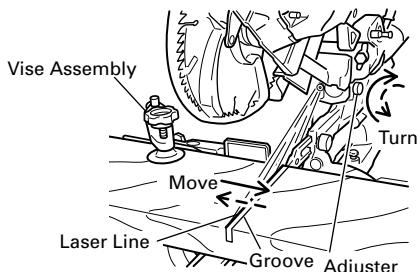
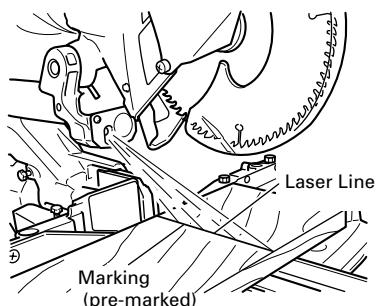

Fig. 20
Fig. 21
- (1) Light up the laser marker and make a groove of about 3/16" (5mm) deep on the workpiece that is about 25/32" (20mm) in height and 5-29/32"(150mm) in width. Hold the grooved workpiece by vise as it is and do not move it. For grooving work, refer to "11. Groove cutting procedures" on page 24.
- (2) Then, turn the adjuster and shift the laser line. (If you turn the adjuster clockwise, the laser line will shift to the right and if you turn it counterclockwise, the laser line will shift to the left.) When you work with the ink line aligned with the left side of the saw blade, align the laser line with the left end of the groove. (Fig. 20) When you align it with the right side of the saw blade, align the laser line with the right side of the groove.
- (3) After adjusting the position of the laser line, draw a right-angle ink line on the workpiece and align the ink line with the laser line. When aligning the ink line, slide the workpiece little by little and secure it by vise at a position where the laser line overlaps with the ink line. Work on the grooving again and check the position of the laser line. If you wish to change the laser line's position, make adjustments again following the steps from (1) to (3).
**NOTE:** Check and make sure on a periodic basis if the position of the laser line is in order. As regards the checking method, draw a right-angle ink line on the workpiece with the height of about 25/32" (20mm) and the width of 5-29/32"(150mm), and check that the laser line is in line with the ink line [The deviation between the ink line and the laser line should be less than the ink line width (0.5mm)]. (Fig. 21)